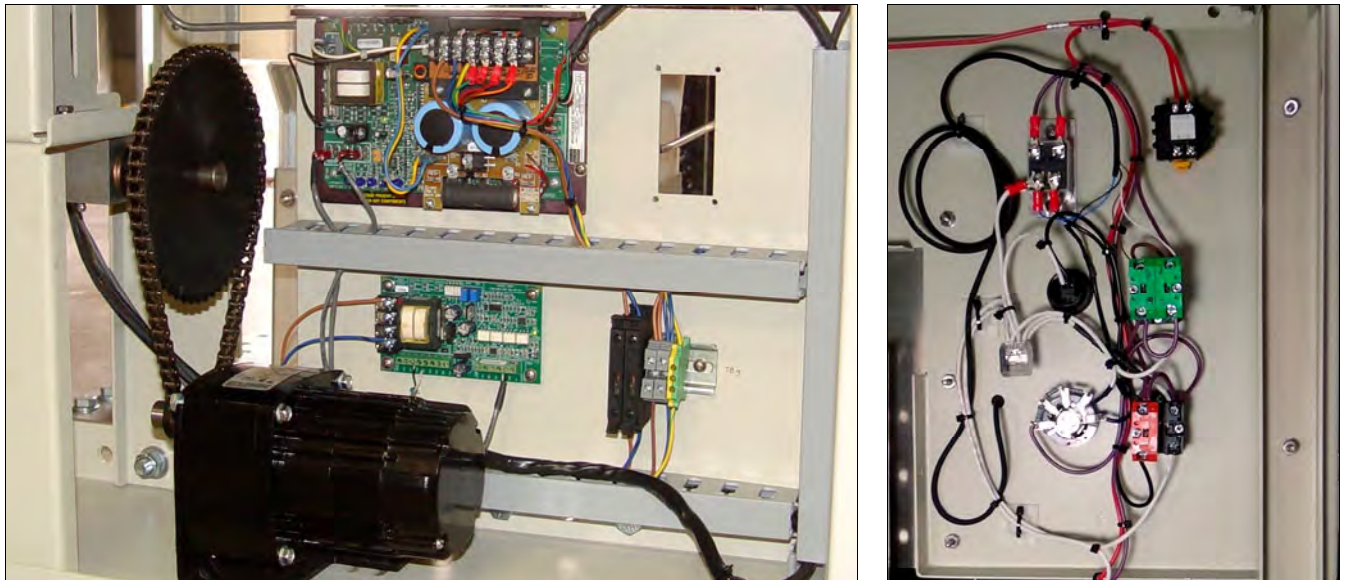

Figure 3-4 MCC or Motor Control panel (L) and SENSILAS Product Alert panel (R)
**MCC panel** – Motor control center. Controls transport motor system. Located at furnace exit (Figure 3-4).